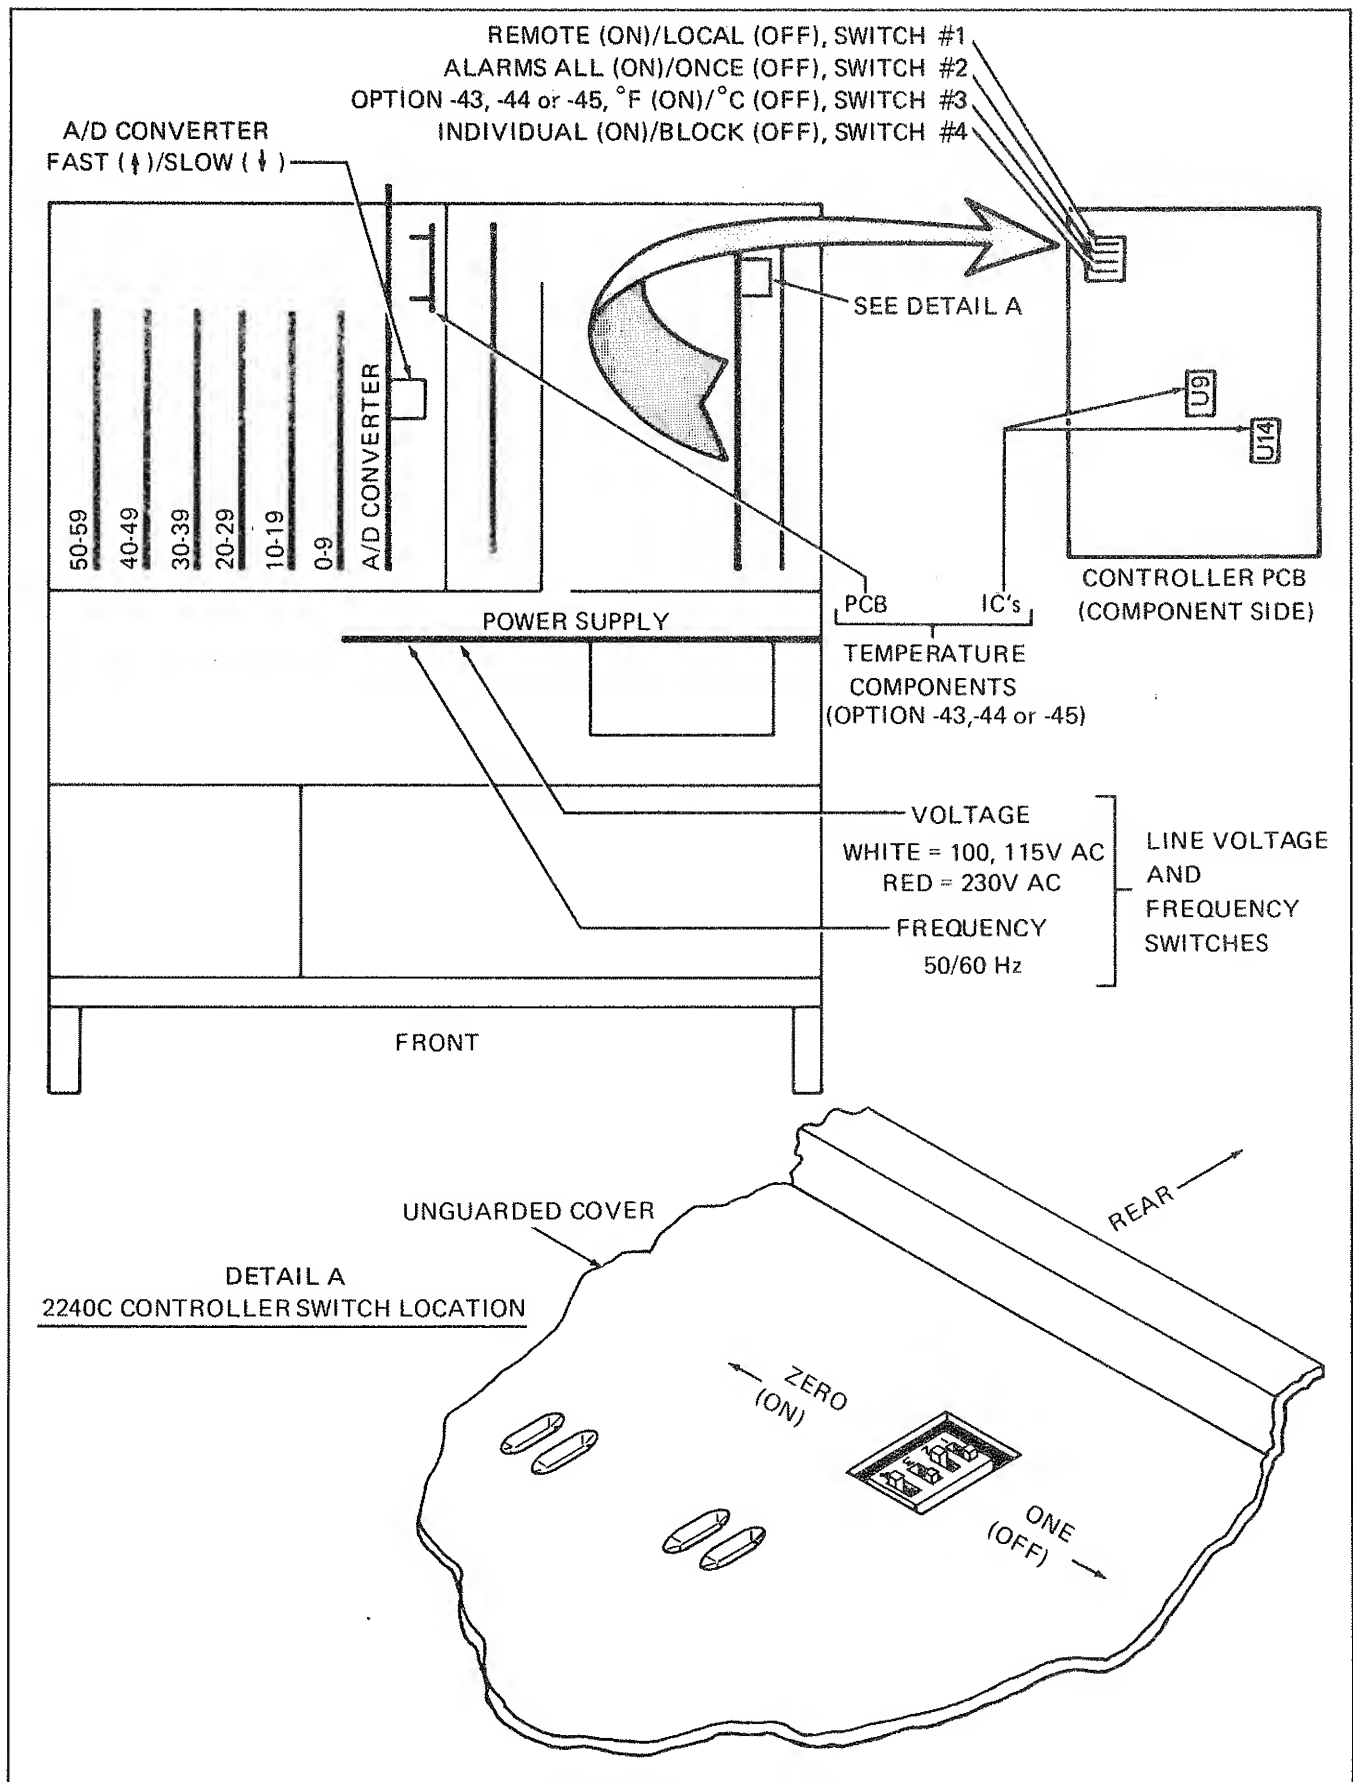

Figure 4-2. Internal Switch Locations
4-21. A series of switches on the inside of the 2240C allows the user to select, and thereby, define certain 2240C operating characteristics. These include: Option -43, -44, and -45 temperature scale (°C/°F), programming mode (individual/block), format of printed and/or recorded data (alarm all/once), A/D converter measurement speed (fast/slow), line voltage, and frequency. Figure 4-2 identifies each of the switch locations. Procedures for setting the switches are given in the following paragraphs.
4-23. The individual or block programming mode, as described in Section 2 of this manual, can be selected by setting switch 4 on the Controller PCB Assembly; ON selects the individual mode, and OFF selects the block mode. See Figure 4-2.
4-25. The data formats for recorded data, as described in Section 2 of this manual, can be selected by setting switch 2 on the Controller PCB Assembly. See Figure 4-2. Printed data format is selected by setting switch 2 to ON for alarms all, or to OFF for alarm once.
2. Locate the line voltage switch shown in Figure 4-2.
4. Locate the line frequency switch shown in Figure 4-2.